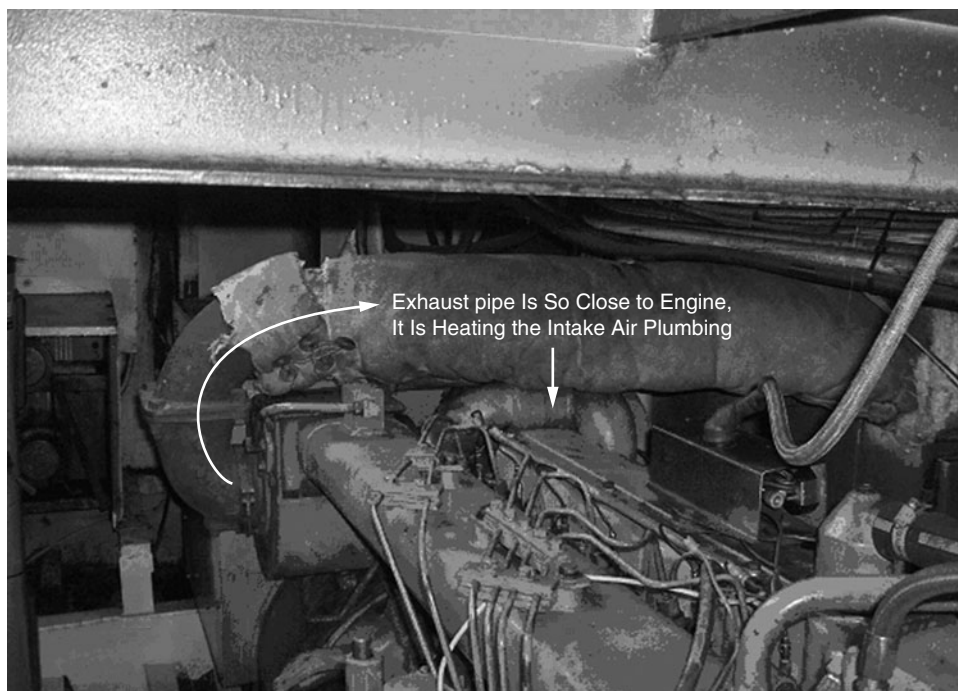

Fig. 8-8. Tight bends and close quarters.
- ♦ the number of bends in the exhaust pipe; it also matters whether bends are 45, 90, or 180 degrees, as shown (Fig. 8-8)